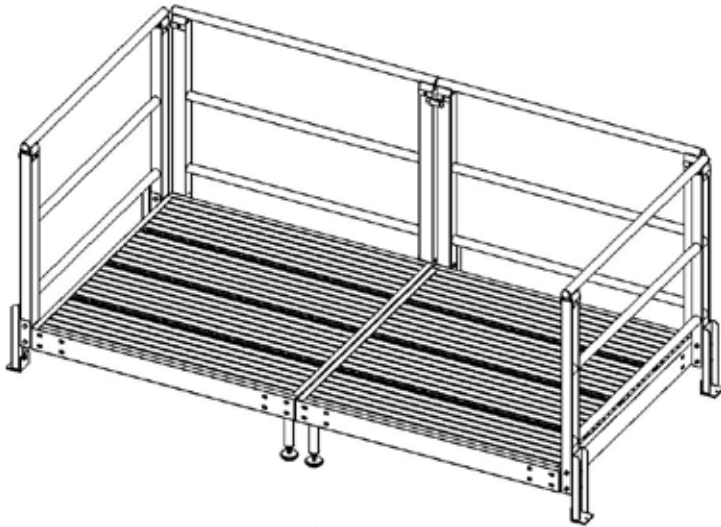
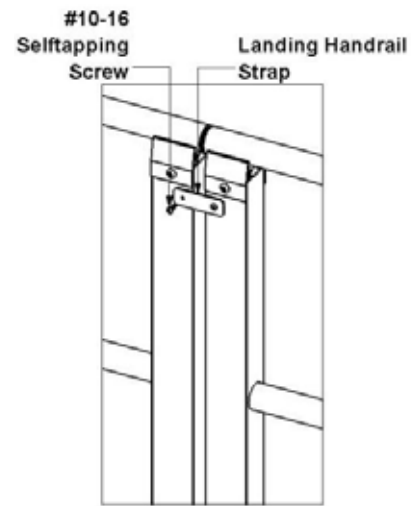

Fig.3.15
Fig.3.16
3.7 Multiple Platform Base Assembly: With both platform bases completely assembled and connected at the seam, (**Fig.3.15**) attach the landing handrail strap to the landing post. Position and attach landing handrail strap on center with landing post just below the top handrail using a #10-16 selftapping screw (**Fig.3.16**).